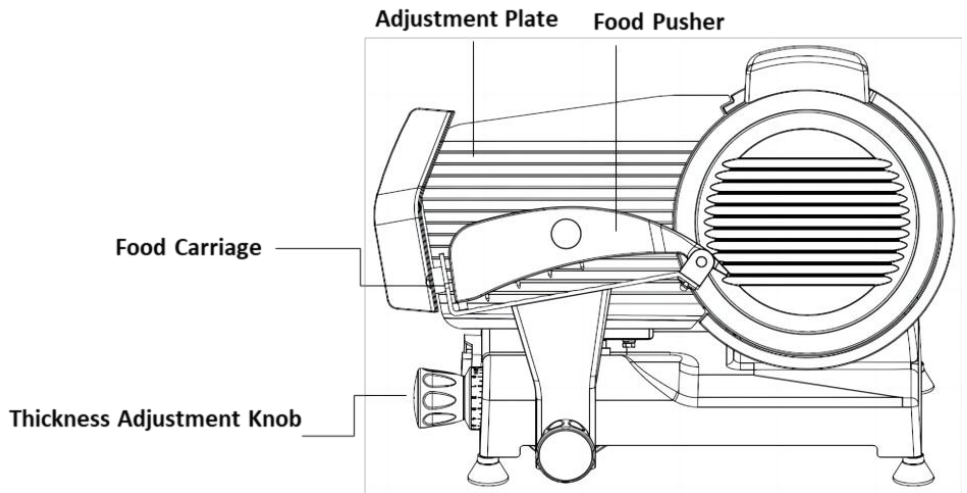

Fig. 1
- 3.Place food onto the Sliding Food Carriage (Part #5) between the Adjustment Plate (#3) and the Food Pusher (#12). To avoid injury, ALWAYS use the Food Pusher Handle (#11) to slice meat. (Refer to Fig. 1)
- 4.Turn the Thickness Adjustment Knob (Part #2) to set the Adjustment Plate (Part #3) for the desired cutting thickness. Turn clockwise for thinner cuts, counter-clockwise for thicker slicing. (Refer to Fig. 1)